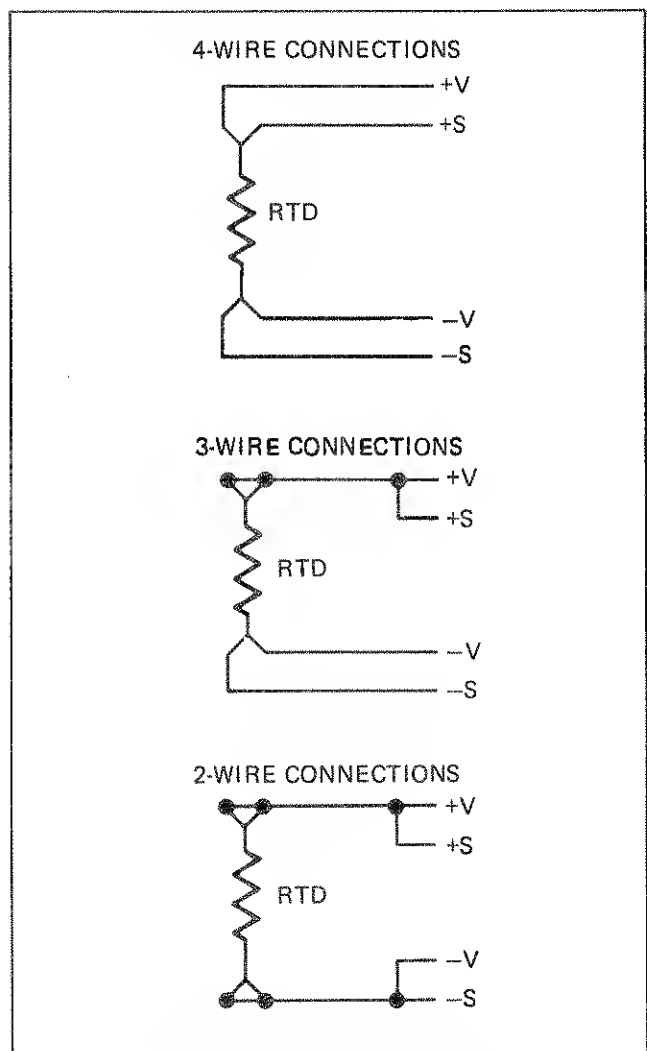

Figure 2-2. RTD Connections
3. Route the selected RTD lines through the Input Module's rear access port, and connect them to the input terminals; depending on the type of RTD, connections may involve 2, 3, or 4 wires. Refer to Figure 2-2 as a reference when connecting RTD lines to the Input Module (TB1). Lines of the same color usually go to the same polarity connections (+V and +S, or -V and -S). Refer to instructions included with the RTD for specific connection directions.
When 2- or 3-wire RTDs are used, there is some error created due to the RTD excitation current in the Sense (S) wire leads. To minimize this error. The user should (when possible) use the 4-wire RTD connection as show in Figure 2-2.